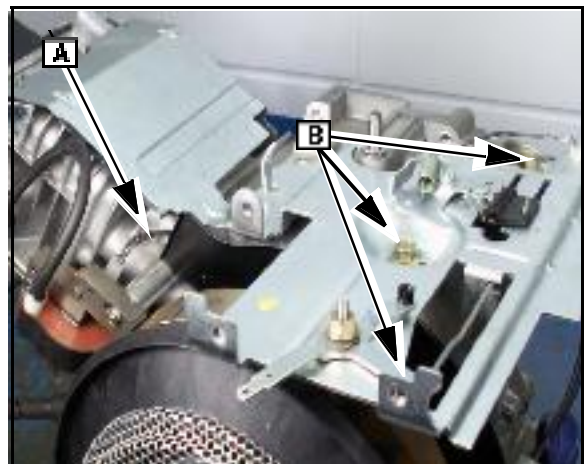

Fig. 32
6. Route the ignition harness as shown (A) and connect wire to ignition coil. Torque control bracket screws (B) Fig. 32) to values listed in section 14.